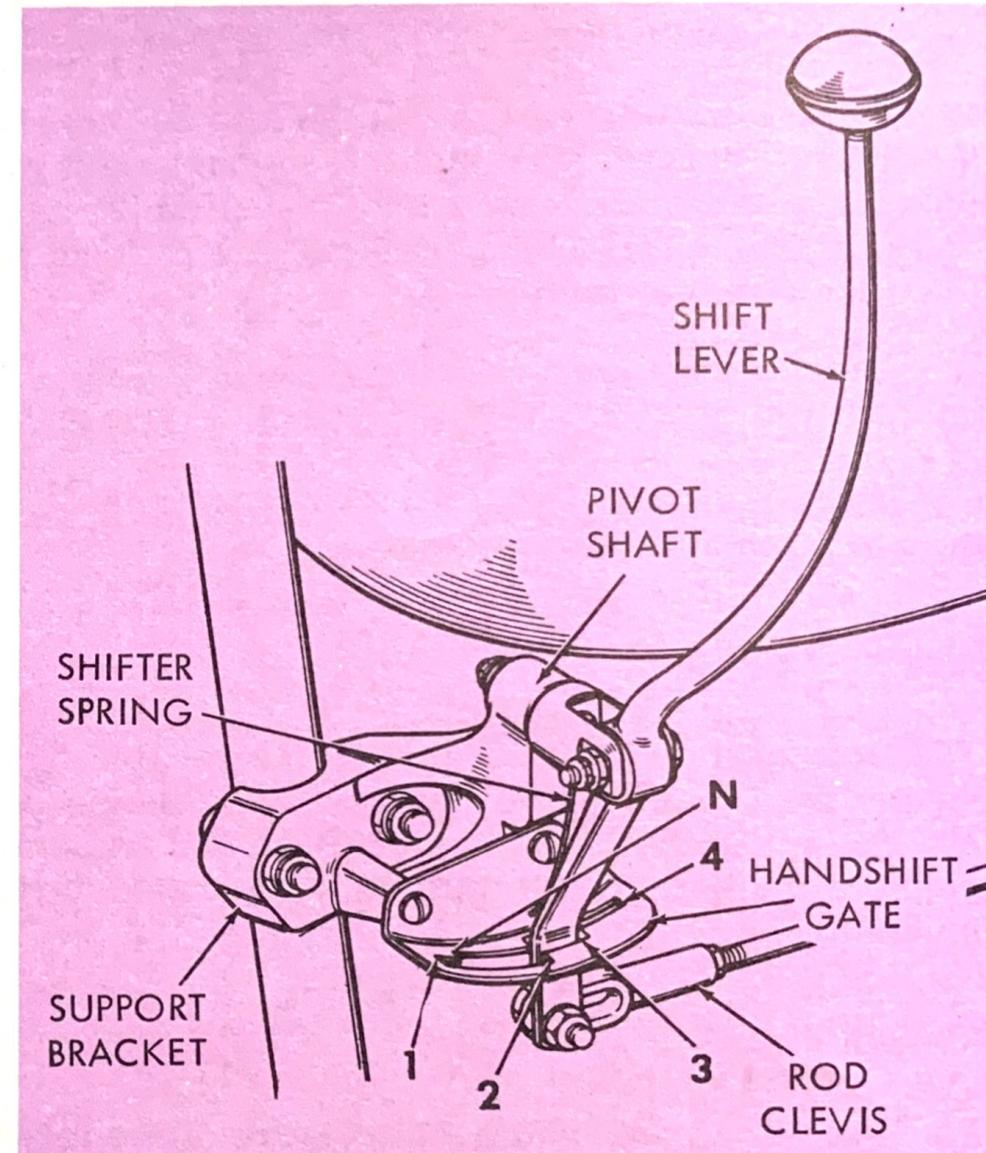

FIGURE 10. HAND SHIFT
The hand gear shift lever (figure 10) is located on the left side and the various positions are plainly marked on shifter gate. This lever must be at neutral (N) and the clutch engaged when starting the engine. **FULLY RELEASE THE CLUTCH BEFORE SHIFTING.** To shift gears, move upper end of lever forward or rearward. This moves lower portion of lever in opposite direction against stops in gate where gear positions are marked.